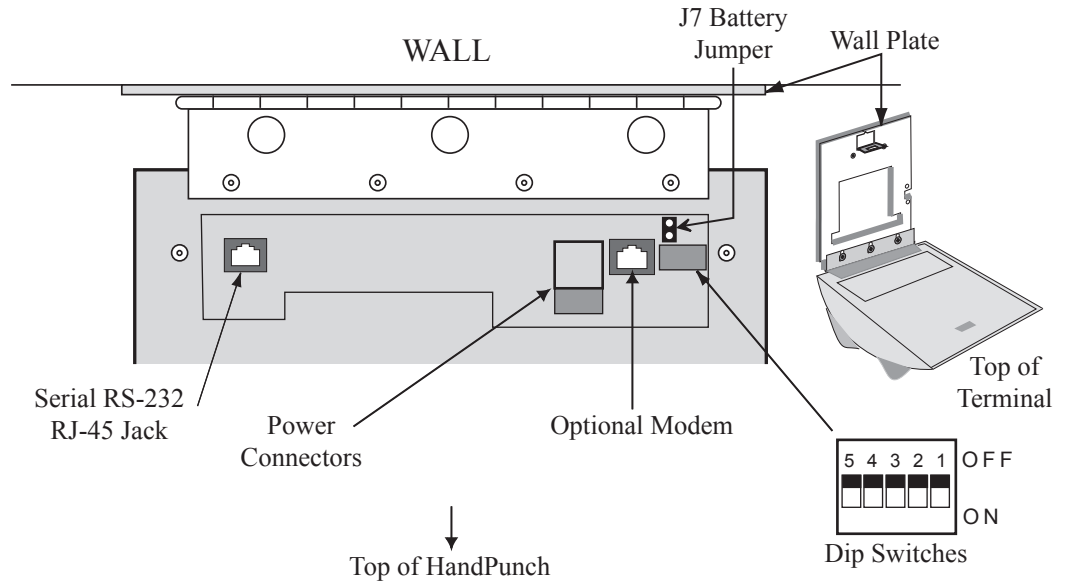

Figure 12-4: Wiring Connections and Dip Switches
Once the HandPunch is attached to the wall plate the wiring connections to the HandPunch can be made (see Figure 12-4).
*If the HandPunch is equipped with the battery backup option, remove shunt J7 in front of the DIP switch array (see Figure 12-4 on page 55) before proceeding. Replace shunt J7 after completion of the following steps.*